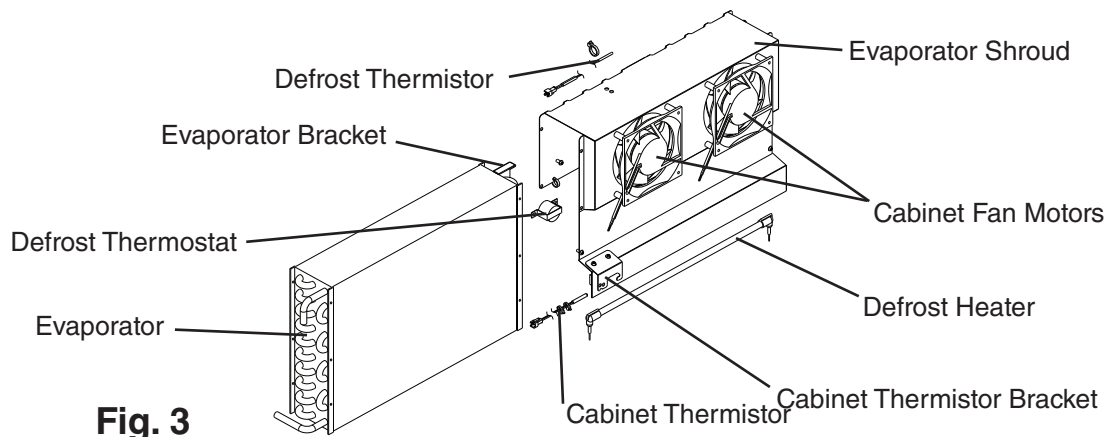

Fig. 3
- 2) Remove the defrost heater, defrost thermostat, defrost and cabinet thermistors from the evaporator. See Fig. 3.